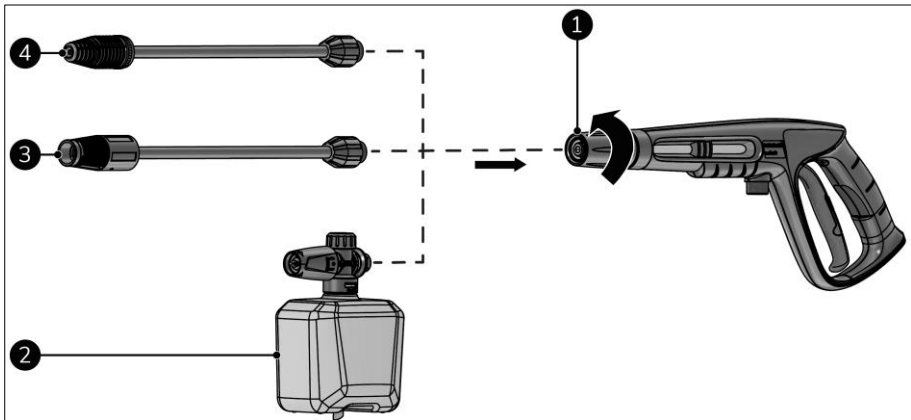

Figure 13
1. On the jet gun (Figure 13, pos. 1), screw on (tight) the:
- foam nozzle (Figure 13, pos. 2), or;
- adjustable nozzle (Figure 13, pos. 3), or;
- turbo nozzle with low or high pressure selection (Figure 13, pos. 4).